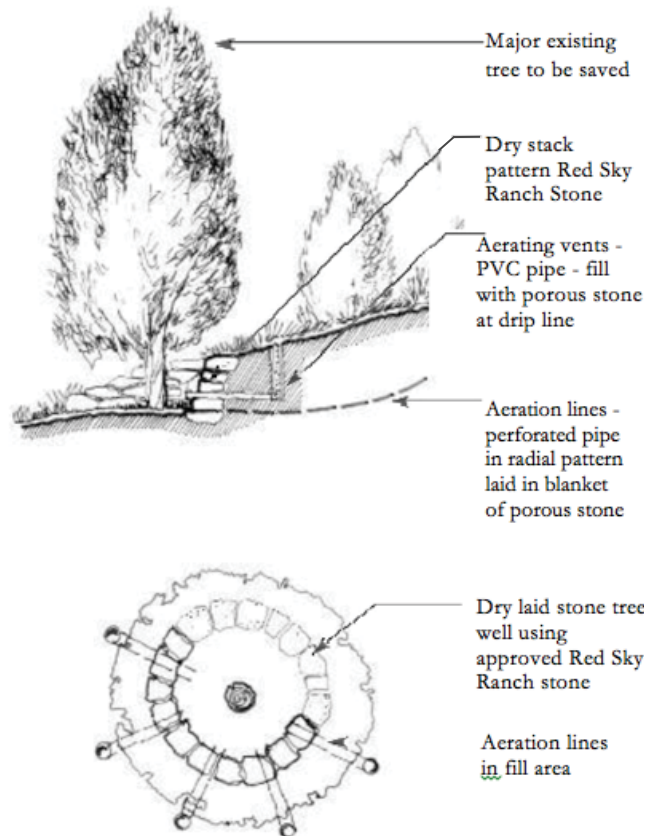

Figure 2.9 - Tree Well Design when adding fill under Drip Line
- The intent at Red Sky Ranch is to preserve existing trees whenever possible. Where existing trees are located within disturbed areas, approved Red Sky Ranch tree wells are to be used. See Figure 2.9.